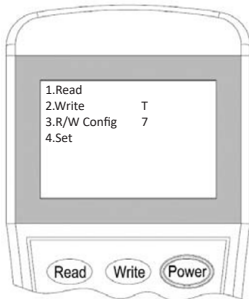

Figure 14
3. Switch-on the programming tool, then press button **“3”** to enter to Configuration mode (Figure 14).